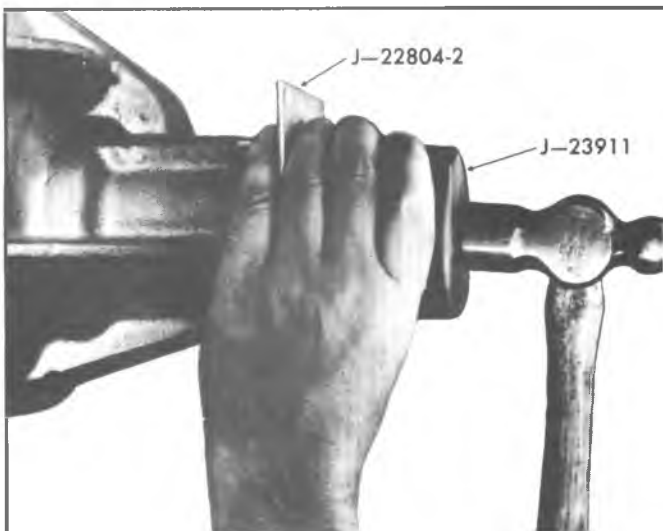

Fig. 23B—Installing Pinion Oil Seal
2. For 8-7/8" ring gear position seal in bore and place gage plate J-22804-2 over seal and against flange. Gage plate insures proper seating of seal in carrier bore. See figure 23B. Use J-23911 to press seal into bore until gage plate is flush with the carrier shoulder and seal flange. Turn gage plate 180°; seal must be square in carrier to seal properly.